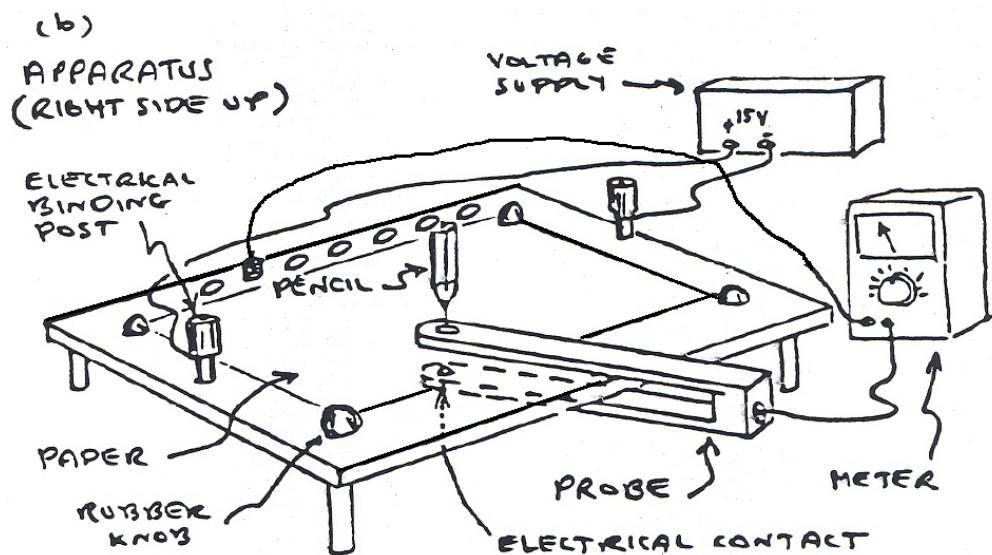

Figure 3: Mounting the resistive boards.
- In order to make an electrical contact between the board and voltmeter, the end of the U-probe with an electrical ball on it is passed under the apparatus and pressed against the resistive board. The other end of the U-probe goes over the mapping board and has a hole that allows you to make a pencil mark on a piece of paper, if aligned vertically. See figure 3.